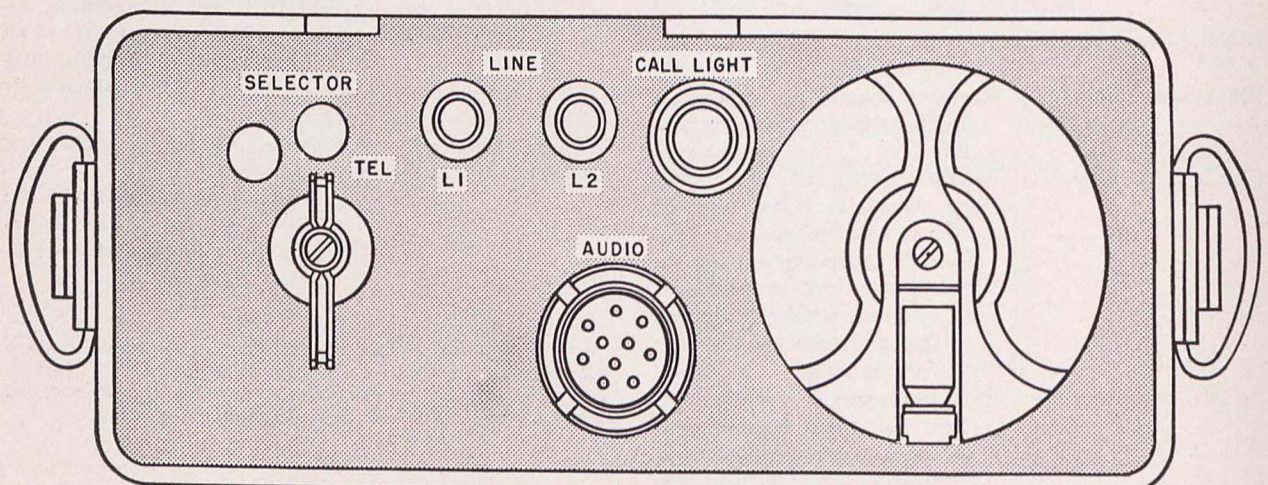

Figure 33. Remote Control C-433/GRC, panel view.
6. REMOTE CONTROL C-433/GRC. Figure 33 illustrates the controls and instruments on Remote Control C-433/GRC. The following chart lists the functions of the controls and instruments.